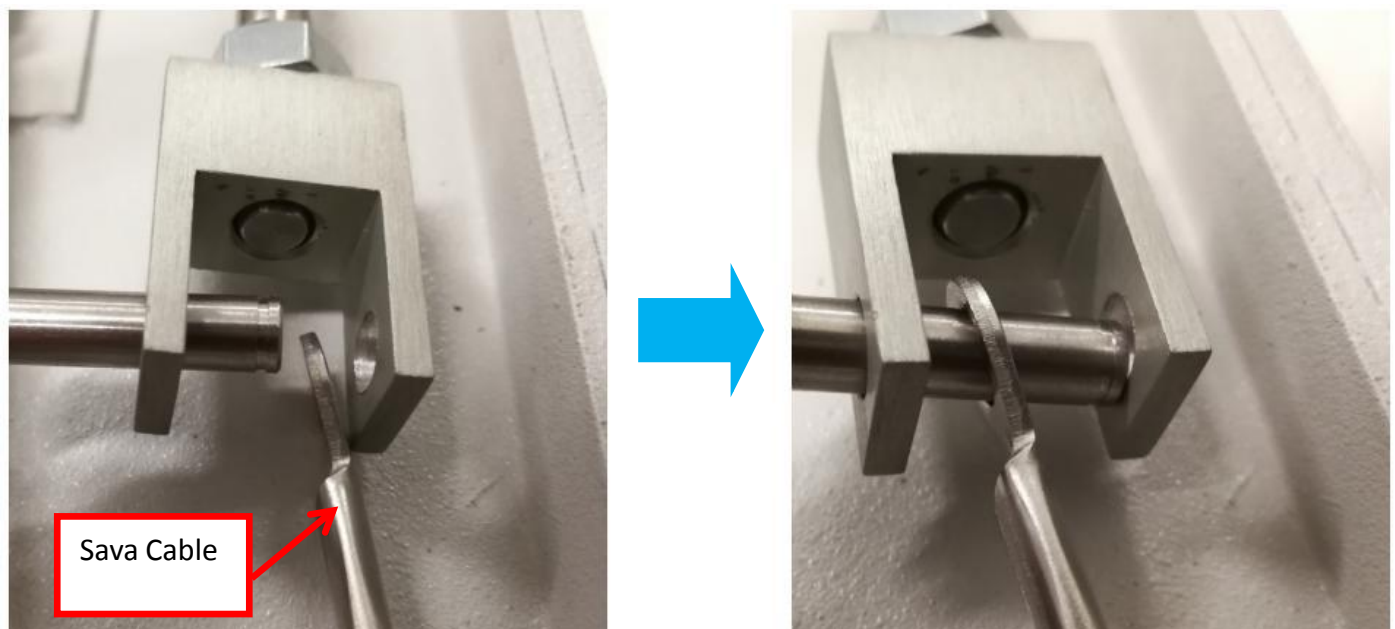

Figure 19
23. Gently slot Sava cable into dowel pin where attach with Front Extension Block as Figure 19